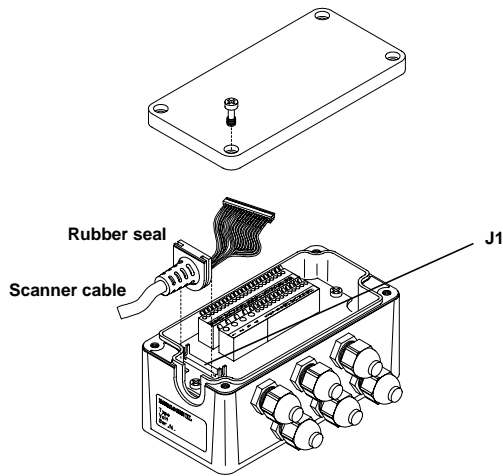

Figure 11 - Scanner cable connections to the junction box
- After wiring the junction box and while the scanner is unplugged from the power supply, place the Scanner cable so that the rubber seal fits into the cutout in the housing of the junction box and plug the 24-pin connector into connector J1 on the PCB inside the junction box as shown in Figure 11.